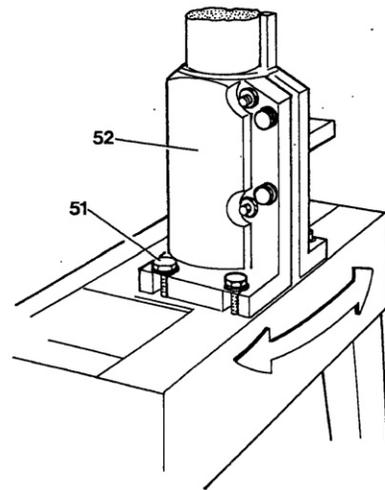
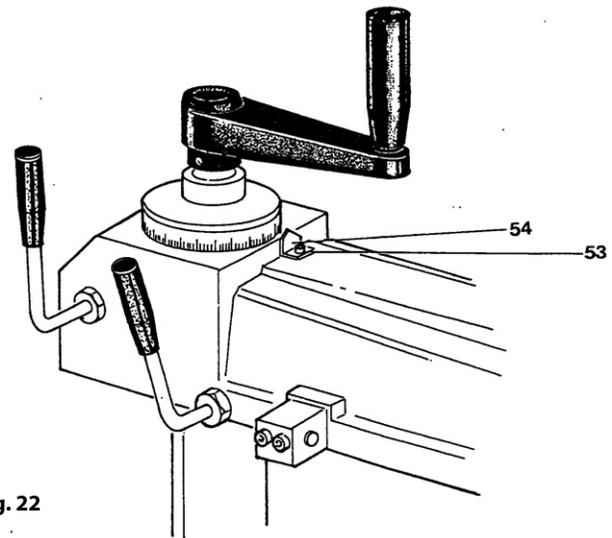

Fig. 21
Fig. 22
If it should prove impossible to eliminate the defect with the adjusting screws, loosen the screws (51) (see fig. 21) of the base (52) and rotate it slightly. Once the arm has been brought perpendicular with the supporting bar, proceed with the final positioning of the index placed on the arm (see fig. 22). Loosen the screw (53) and bring the index (54) in coincidence with position zero of the graduated vernier scale.